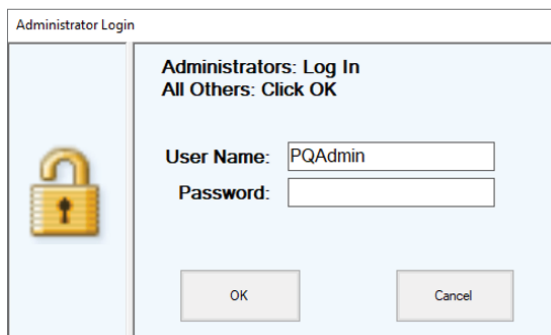

Figure 61. The 'Administrator Login' window.
2. The 'Administrator Login' window opens (Figure 61).
2. Enter a valid Admin User Name and password (Figure 61). See Section 9.F for additional information about user accounts. (Default Admin User Name: PQAdmin; Default Password: Promega).